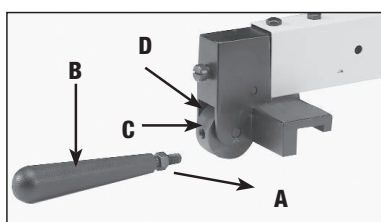

Fig. 24
1. Thread the M8x1.25 hex nut (A) Fig. 24, approximately halfway on the stud of the handle (B).
2. Thread the handle (B) Fig. 24 into the tapped hole (C) in the fence cam (D). Tighten the hex nut (A) Fig. 25 against the cam (D).